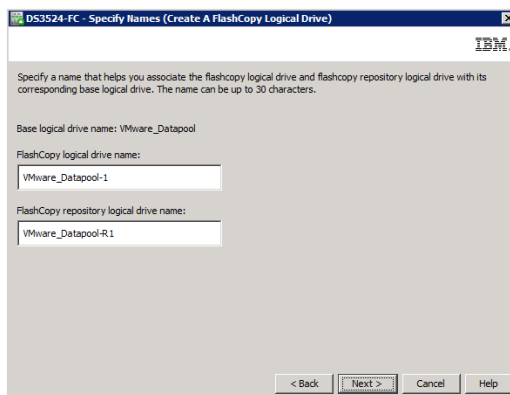

Figure 2-7 Create FlashCopy Logical Drive Wizard: Specify names
- a. The Specify Names panel opens(Figure 2-7). Use it to define the name of the FlashCopy logical drive and its associated repository logical drive.
- a. On the Specify Names panel that opens, Figure 2-7 on page 23, define the FlashCopy logical drive name and the name of its associated FlashCopy repository logical drive. Click **Next** to continue.